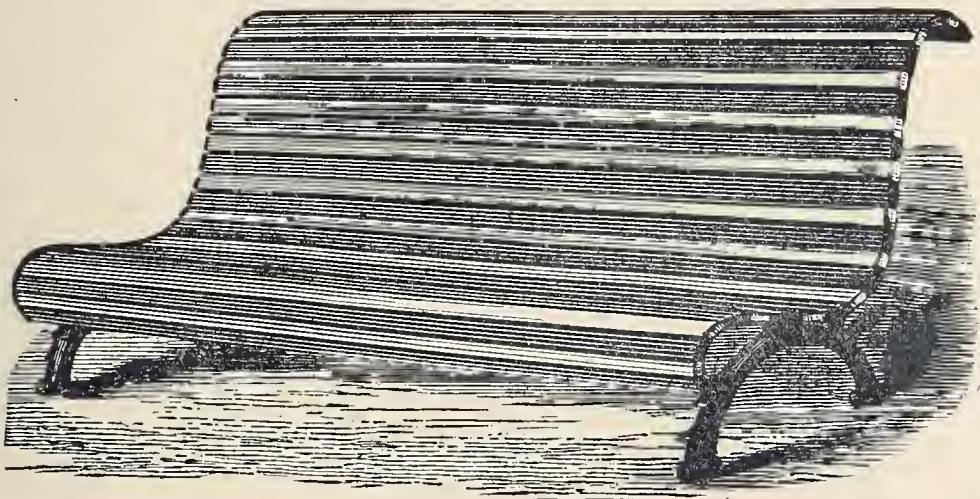

Fig. 478. — "Carroll Park" Lawn Seat.
*The "Carroll Park" Lawn-Seat*, represented by *Fig. 478*, is of a graceful and comfortable pattern, and, being strongly made, is very durable. It is usually made six feet in length.